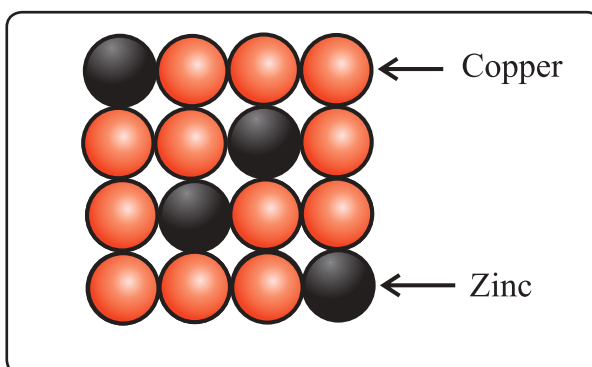

Fig. 1.17 : Brass
- **Solid solutions of metals (alloys) :** Brass is an alloy of Cu and Zn. In brass, host Cu atoms are replaced by impurity of Zn atoms. The Zn atoms occupy regular sites of Cu atoms as shown in Fig. 1.17.